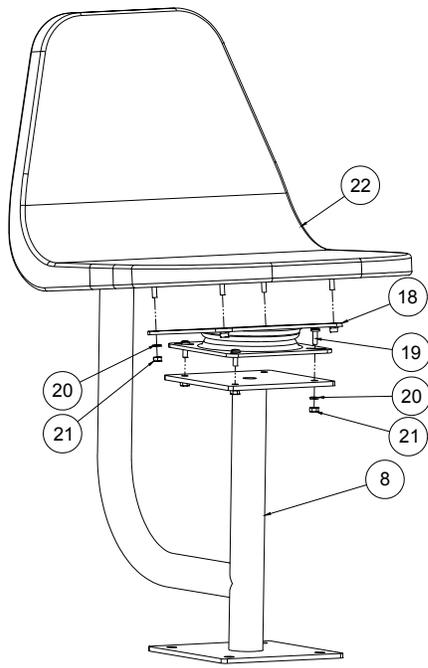

FIGURE 5
- Place **Swivel (item 18)** onto **Swivel Stand W/ Umbrella Holder (item 8)** orienting as shown in **FIGURE 5**. Place **Screw (item 19)** through Swivel and Swivel Stand (4 places) as shown in **FIGURE 5**. Place **¼" Lock Washer (item 20)** and **¼" Hex Nut (item 21)** onto **Screw** and tighten (4 places).
- Place **Lifeguard Chair (item 30)** onto **Swivel**. Attach **¼" Lock Washer (item 20)** and **¼" Hex Nut (item 21)** onto **Lifeguard Chair** studs and tighten (4 places) as shown in **FIGURE 5**.